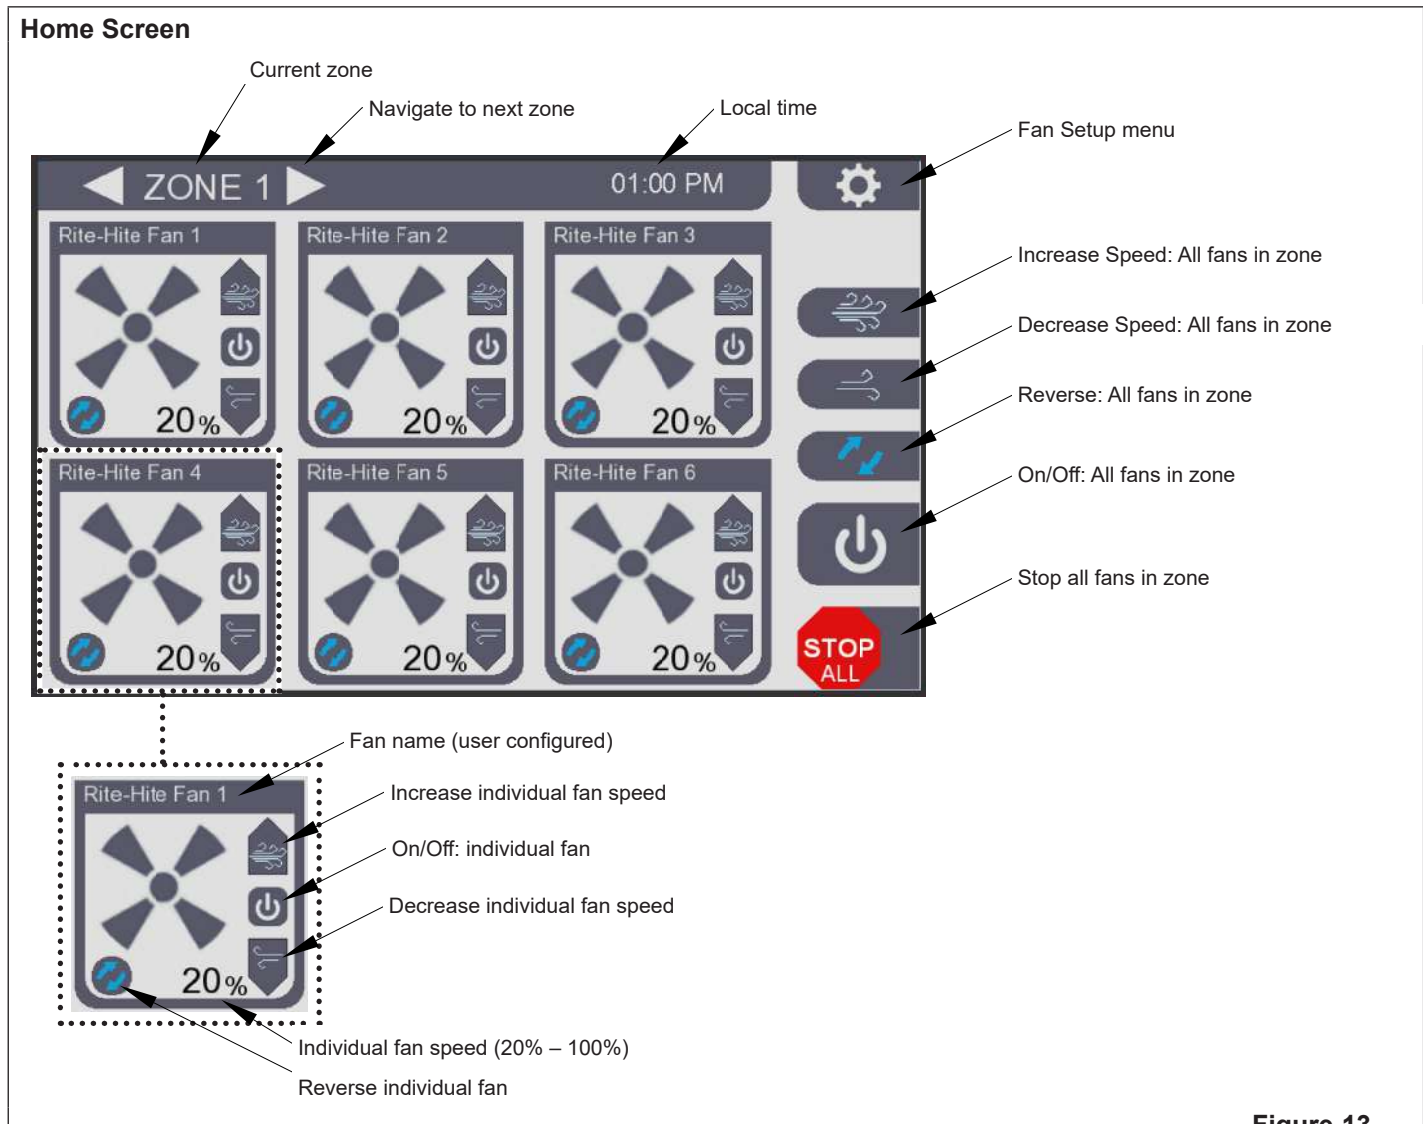

Figure 13
- The *Schedule Enabled/Disabled* button (M) allows the schedule function to be toggled on and off.
- If automatic ambient temperature control is not enabled, the schedule function will restart the fans at their most recent speed setting (displayed on the Home screen) (Figure 13).
- At scheduled stop time, the *Automatic Temperature Control* function toggles to *Disabled* (fans will not automatically run based on temperature conditions). Temperature control may be temporarily re-enabled by toggling the *Temp Control Enabled* button (N).